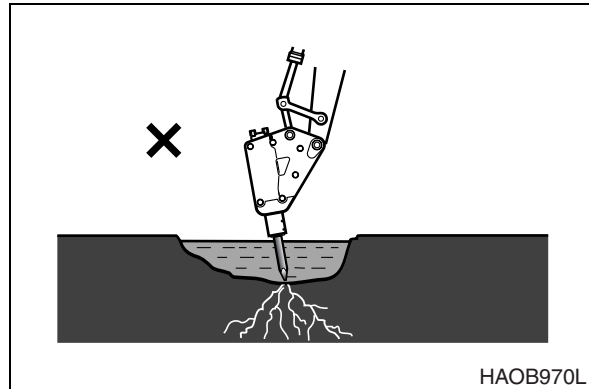

Figure 74
- Do not allow the breaker body to go into water if not equipped for underwater operation. The breaker seal can be damaged and allow rust, foreign material or water to enter the hydraulic system and cause damage. Only insert the breaker tool into water. See Figure 74.